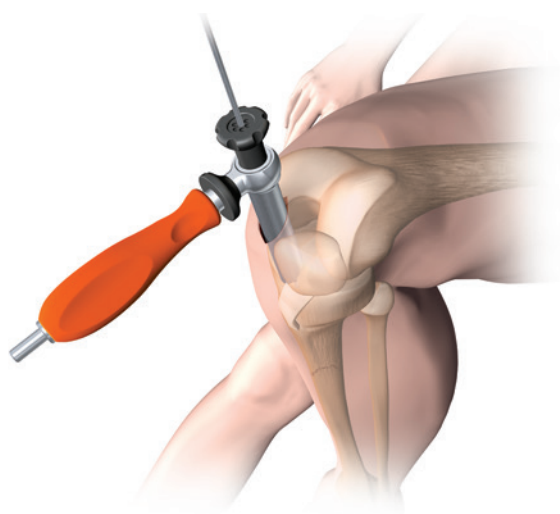

Figure 6
4. Insert the guide pin into the proximal tibia to a depth of 4–6cm (Figure 6).